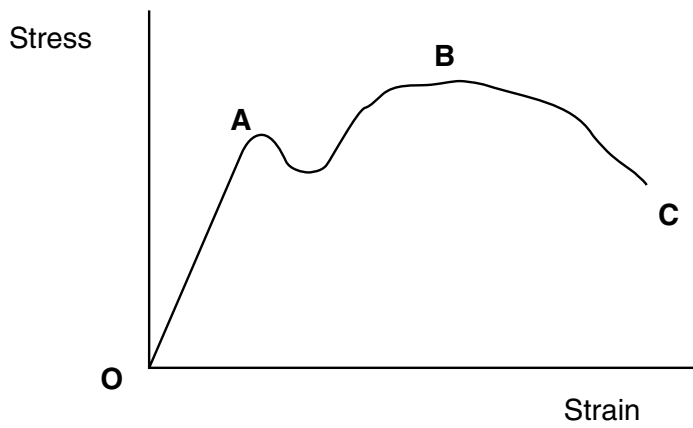

Fig. 3
- (b) Fig. 3 shows a stress / strain graph for mild steel.